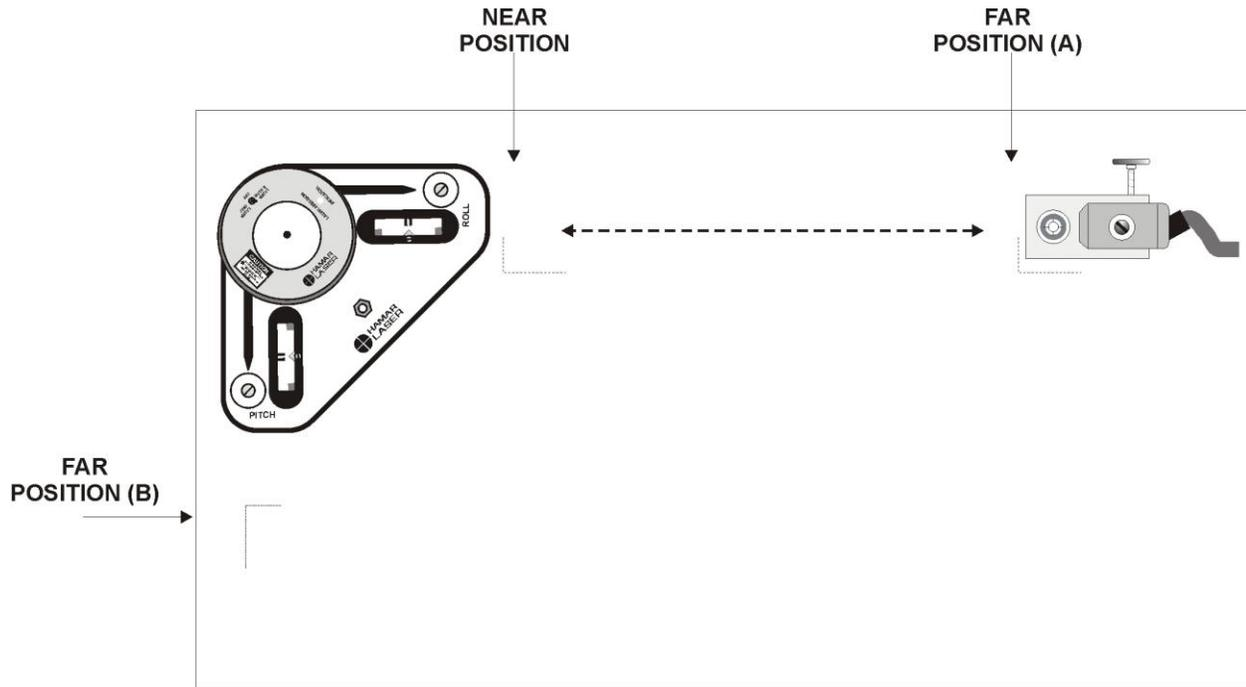

Figure 49 - Three-Point Buck-in Using One Target (Recommended Setup)
- With the laser in non-scanning mode, hold a tape ruler at the Near Position (see Figure 49). Point the laser until it strikes the ruler and note the exact location where the laser beam hits.
- Move the tape ruler to Far Position A (see Figure 49). Point the laser beam at the tape ruler and adjust the center of the beam to hit the same location obtained in Step 2a.
- Place the tape ruler at Far Position B (see Figure 49) and rotate the laser beam to hit the tape ruler. Adjust the laser so that the center of the beam hits the same location recorded at the Near Position.
With the target in Far Position A, tilt the laser beam with the *laser* micrometers until the readout reads zero. Be sure to use *only* the micrometers that face the target (in the setup displayed in Figure 49, this would be the micrometers marked ROLL).
Be sure to use only the laser micrometers that face the target when tilting the laser beam (in the setup displayed in Figure 49, this would be the micrometer marked PITCH).